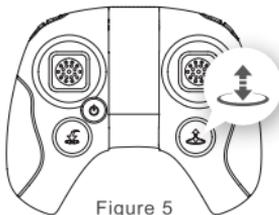

Figure 5
- 2) Press the Auto Land button and the aircraft will slowly descend to the ground. (Figure 5)